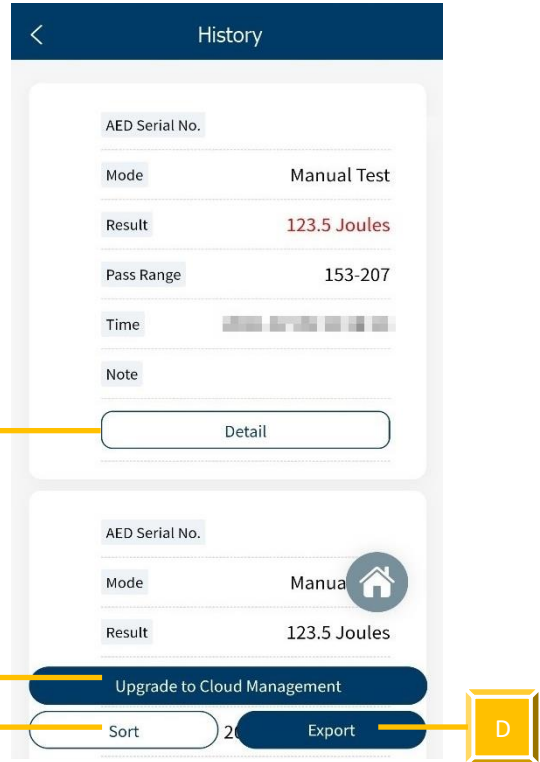

Figure 21: History Interface
1. Click History on the home screen and User will see Figure 21 on the screen.